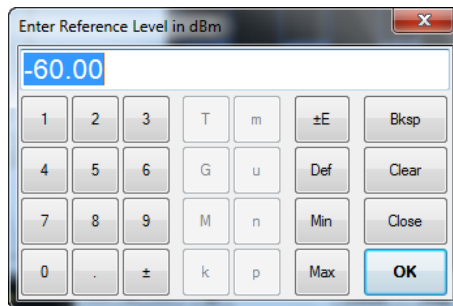

Figure 2-13 Reference level keypad dialog for the RF input channel
- 9 The reference level keypad dialog is displayed as shown in Figure 2-13.